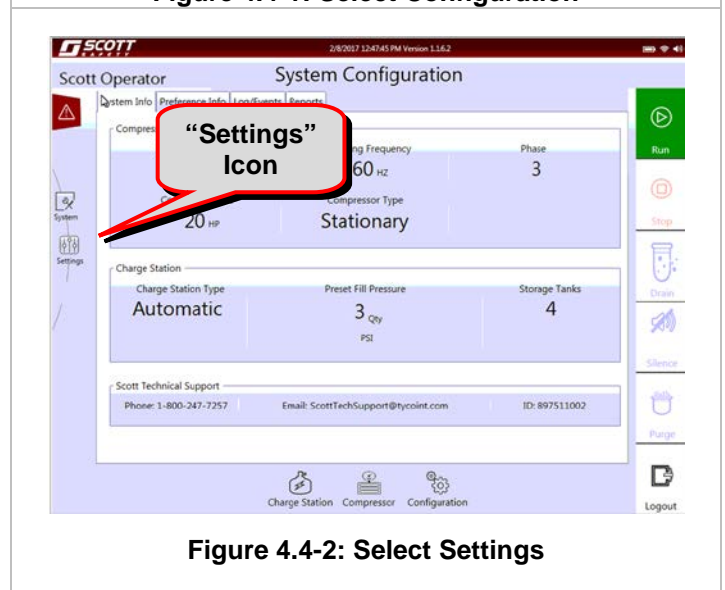

Figure 4.4-2: Select Settings
2. The system configuration screen will be displayed. On the system configuration screen touch the “Settings” Icon. See Figure 4.4-2.